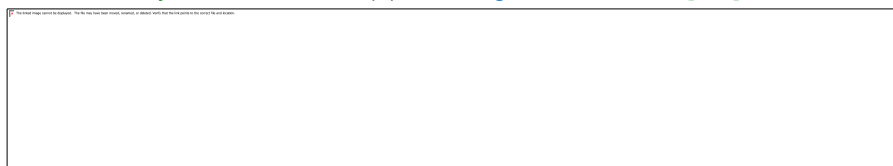

Figure 4-64
3. Go to the *Misc* tab (*Miscellaneous*) and select the “Medium Design Size” option and set the “Base database symbol size” to **23 (7)** as in Figure 4-64. Click [OK].